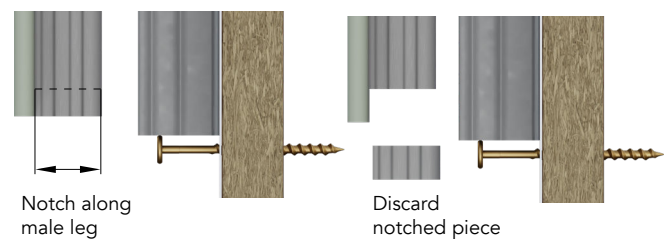

Figure 4
- Notch-out "T"-Moulding at bottom along male leg for stop fastener. Notch depth is based on preferred location of bottom edge (Figure 4).